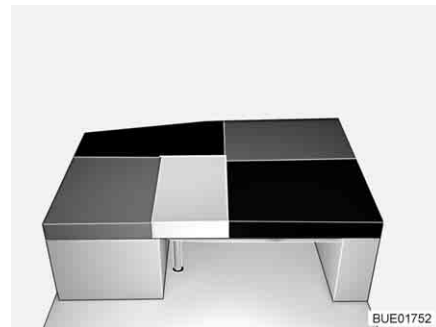

Fig. 129 After conversion
- Place the back cushion of the lateral seat/lateral bench on the table (between the seat cushion of the lateral seat/lateral bench and the additional cushion, see Fig. 129).